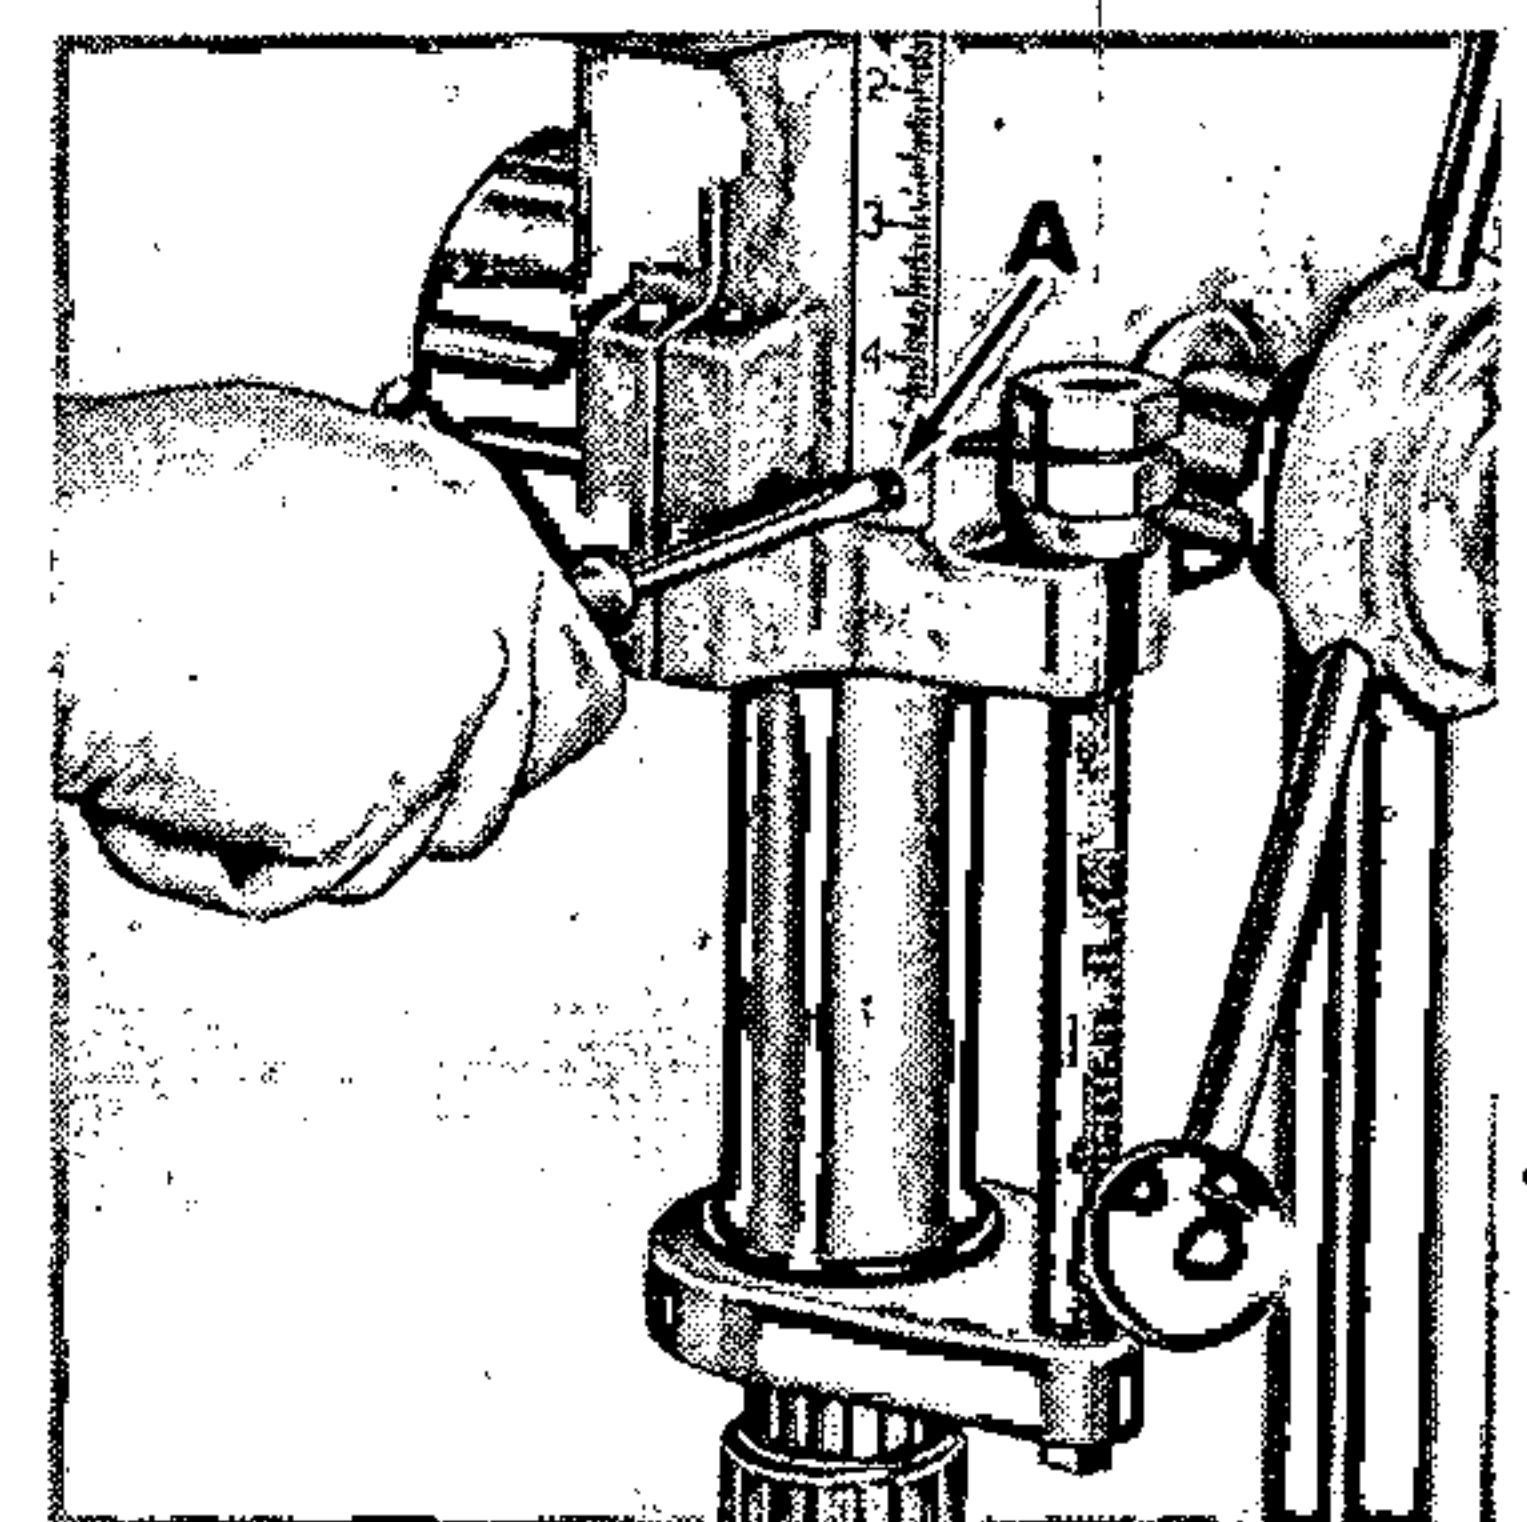

Figure 4
2. Loosen screws and with quill at maximum travel, position scale so pointer is at $4\frac{3}{4}$ ", then tighten screws (A, fig. 4).